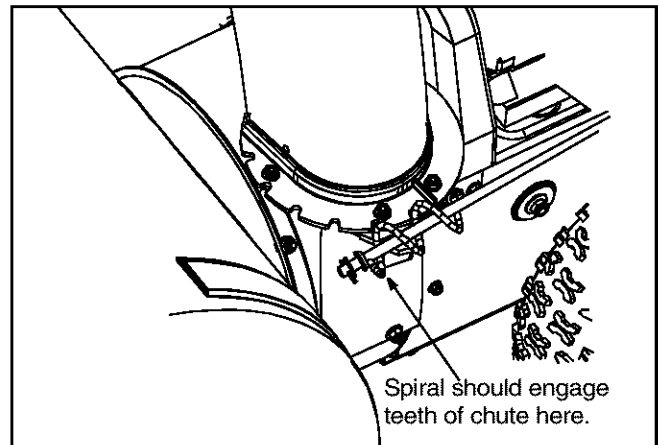

Figure 10
- Adjust the chute directional control bracket so that the spiral on the chute directional control fully engages the teeth on the chute assembly. Tighten all hardware. See Figure 10.